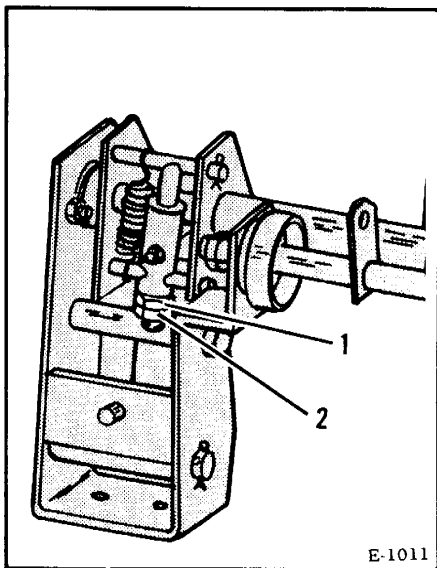

Fig. 90 Directional Control Mechanism
8. Hold one of the steering levers in neutral and place the other lever fully forward. While holding the levers in this position adjust the differential limiting rod adjusting nut (Figure 90, Item 1) until it just contacts the sleeve of the differential limiting rod. Tighten the lock nut (Item 2).